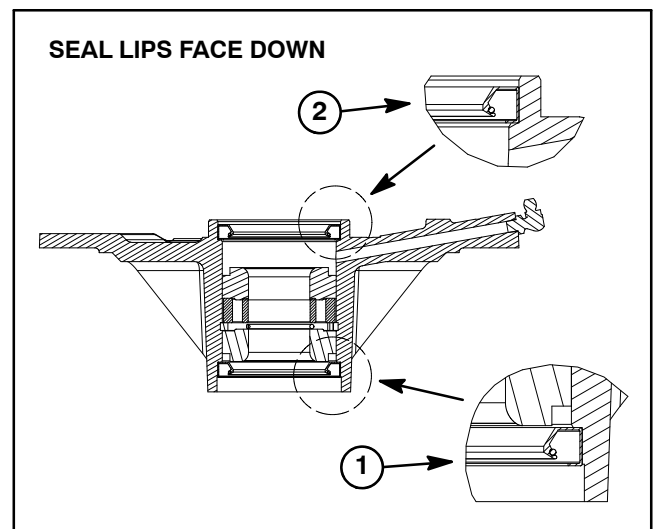

Figure 13
5. Install lower bearing cone and oil seal into bottom of spindle housing. **NOTE:** The bottom seal must have the lip facing out (down) (Fig. 13). This seal installation allows grease to purge from the spindle during the lubrication process.
6. Slide spacer ring and inner bearing spacer into spindle housing, then install upper bearing cone and oil seal into top of housing. **NOTE:** The upper seal must have the lip facing in (down) (Fig. 13). Make sure upper seal is flush to 0.080" (2.0 mm) recessed to housing surface.